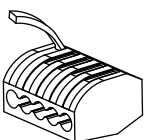
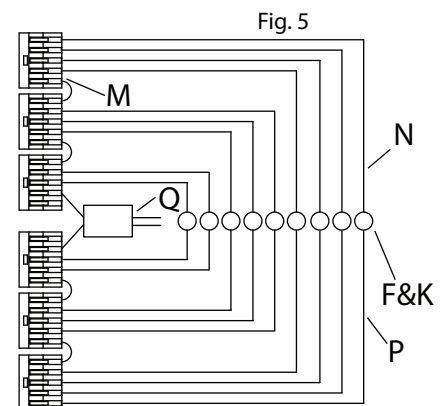

Fig. 4
Fig. 5
6. Connect the fixture wires to the lever nuts (M) by pulling up on the lever for an empty slot (Fig. 4), inserting the wire, and pushing the lever back down to lock. The white inner conductor (N) and black outer conductor (P) on each cord (F&K) must be connected to separate lever nuts, as shown (Fig. 5).
7. Reserve transformer (Q), extra cords (F&K) and lever nuts (M) in canopy (J).
- a. Connect the transformer's (Q) live wire (black) to the live outlet box wire.
- b. Connect the transformer's (Q) neutral wire (white) to the neutral outlet box wire.
- d. Carefully place connections in outlet box (A).
9. Attach mounting plate (R) to the outlet box (A), secure with outlet box screws (S).
10. Attach canopy (J) to nipple (T), secure with finial (U).
11. Adjust spreader (B) to desired height and level.